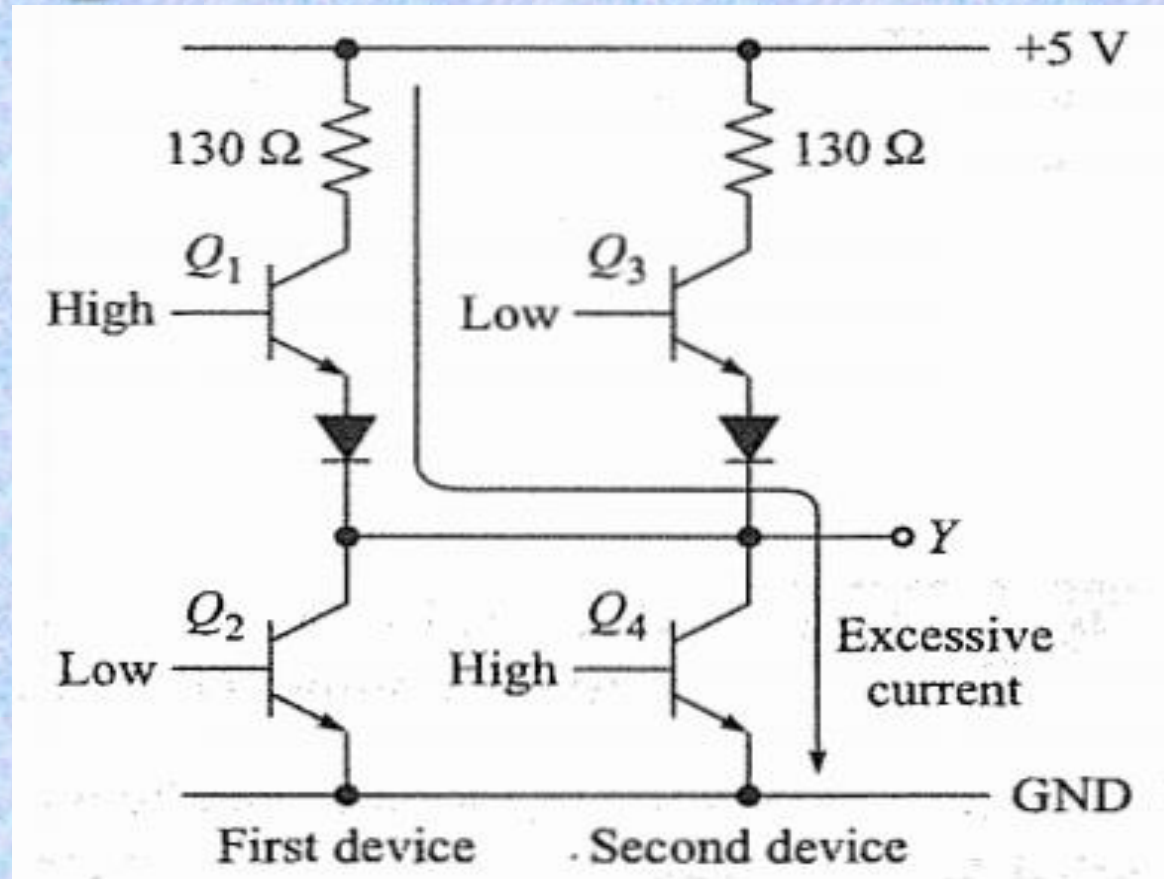

Fig. 1.23 Direct connection of TTL outputs produces excessive current
- If you try to wire-OR standard TTL gates, you will destroy one or more of the devices. Why? Look at Fig. 1.23 for an example of bad design. Notice that the output pins of two standard TTL devices are connected. If the output of the second device is low, Q_4 is on and appears approximately like a short circuit. If, at the same time, the output of the first device is in the high state, then Q_1 acts as an emitter follower that tries to pull the output and Q_4 are both voltage to a high level. Since Q_1 conducting heavily, only $130\ \Omega$ remains between the supply voltage and ground. The final result is an excessive current that destroys one of the TTL devices.